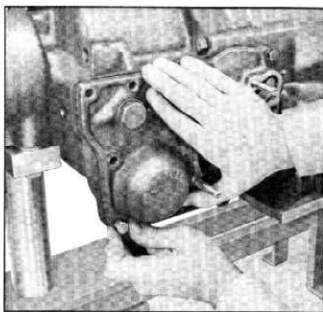

Fig. 136—Installing Servo Cover
9. Install servo cover applying pressure to cover to compress springs and secure with servo cover bolts (fig. 136). Tighten to $12\frac{1}{2}$ "-15 ft. lbs.